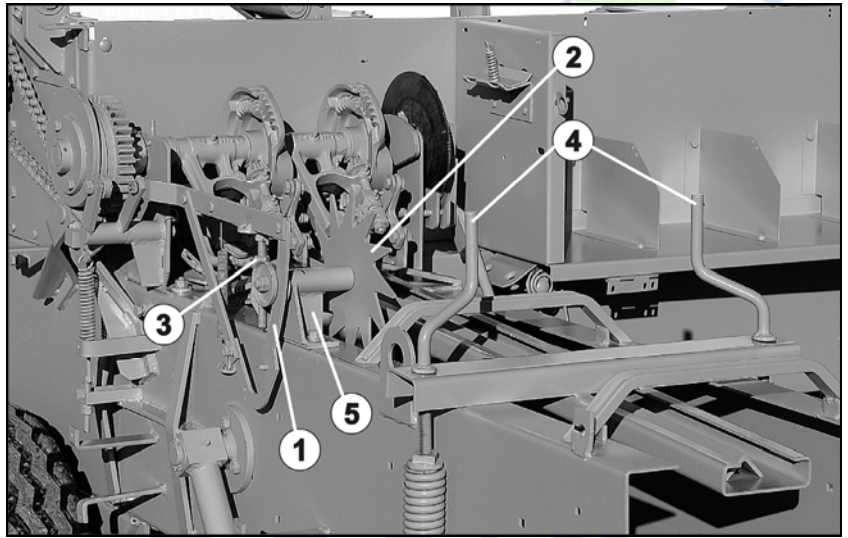
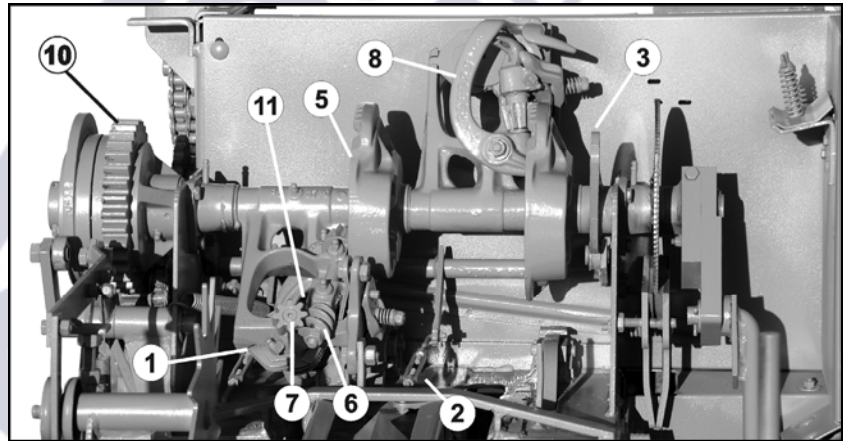

Fig. 4
Fig. 15
The head of the forming bale, makes the twine move forward with itself, the twine - held at one end by cord holder disc (no. 1 Fig. 15) - is drawn out of the little box where the balls are. When the bale reaches a certain length (no. 1 Fig. 4) the arch lever is brought by the advancement of the bales to the maximum height causing the operation of the bale-tie.
In such conditions the bell gear (Fig. 15), with its rotation at the right moment of the phase makes the tier process start as follows:
2. During phase n. 1, when the needles come out from the superior part of the bale chamber, crescents (no. 2 Fig. 15) moved by cam (no. 3 Fig. 15) catch the twine and take it to knotter hooks.
3. The knotter hooks moved by the semi-toothed gears (no. 5 Fig. 15) catch the twine ends brought by the crescents and the twine ends kept by the cord holder disc and tie them.
4. In the meantime the superior ends of the twines brought by the needles have been put into the notches of the cord holder disc (no. 11 Fig. 15) and have been held by these ones.
The movement to the cord holder disc is transmitted by the semi-toothed gears (no. 5 Fig. 15) through the screw (no. 6 Fig. 15) and the gear (no. 7 Fig. 15).
5. At this point the ejector and knife holder arms (no. 8 Fig. 15) quickly moved by the proper existing cams in the central part of the semi-toothed gears, supply to cut the twine ends beyond the tier and to eject the knots from the knotters hooks.